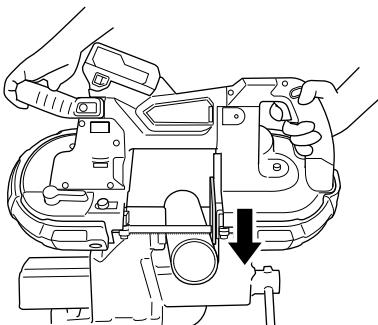

Fig. 21
- (5) Press the switch and cut (Fig. 21)